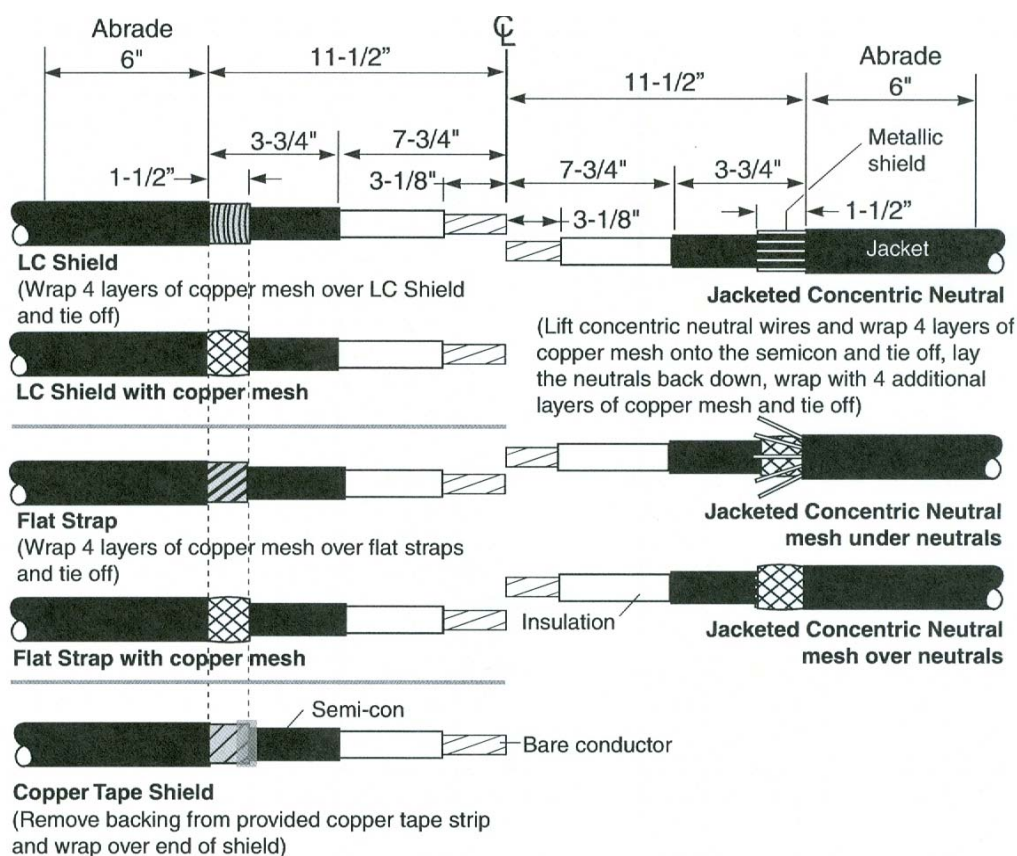

Figure 1
1. Prepare the Cables and Apply the Copper Mesh as Shown in Figure 1.
The copper mesh installation requirements, for each jacketed cable type, are shown in Figure 1. If bare concentric neutral cable must be spliced, go to Step1A for cable preparation instructions.
Use Stock #22-05-213 or the aluminum oxide strip included in the splice kit to abrade/scuff the cable jacket, see Figure 1.